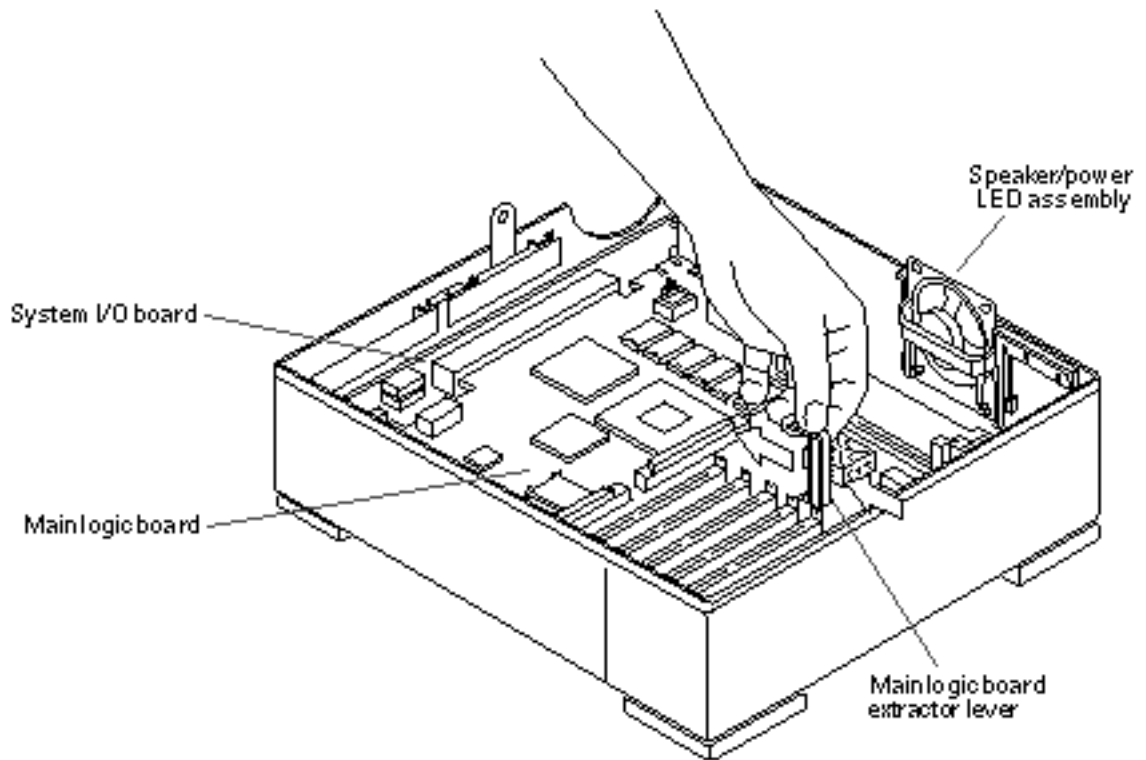

Figure 11-18 Plugging in the Main Logic Board
**d. Push the main logic board extractor lever toward the rear of the system unit to plug the main logic board into the system I/O board (see Figure 11-18).**